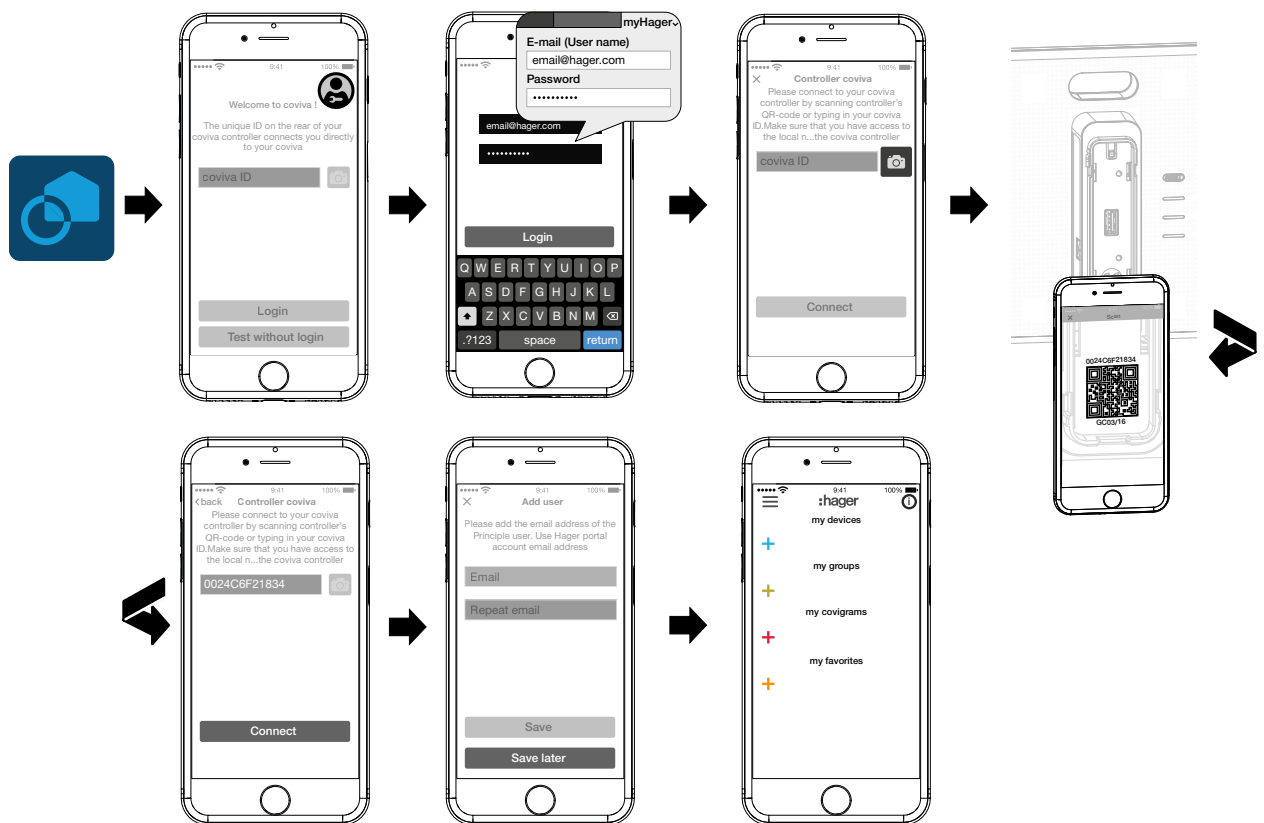

Figure 11: Create a new project
Create a new project (Figure 11)
- Enter e-mail address and password of the **myHager** account and log in with **Login** (Figure 11).